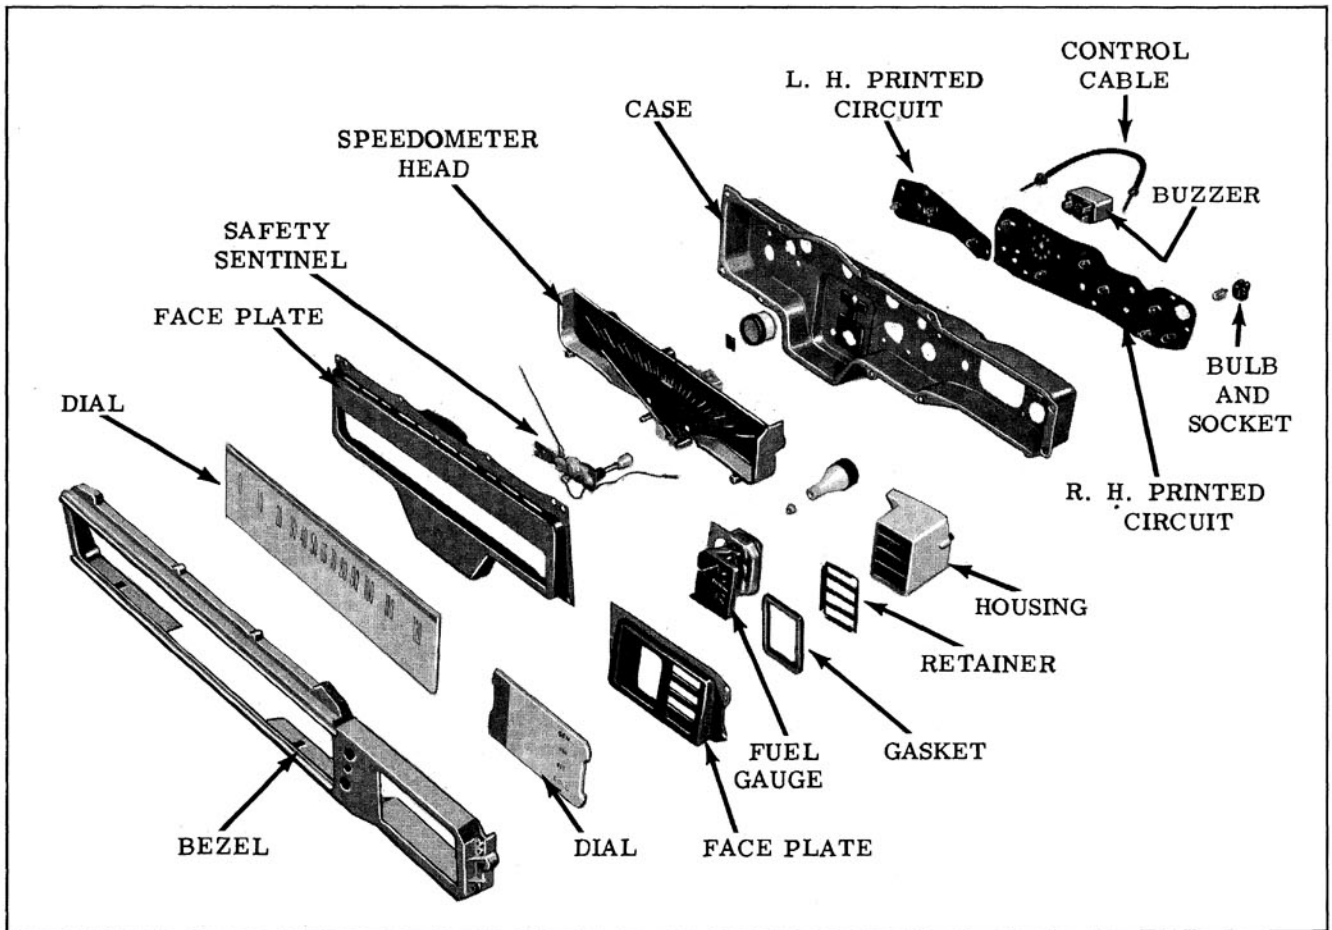

Fig. 12-6 Speedometer Head Exploded
9. If necessary to replace any internal components of the instrument cluster, refer to Fig. 12-6.
Remove and Install (Fig. 12-6)